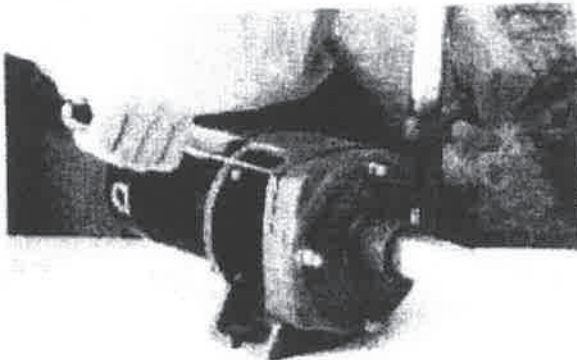

FIG. 1
- (c) To pry components apart, use two screwdrivers opposite each other. (Fig. 1)